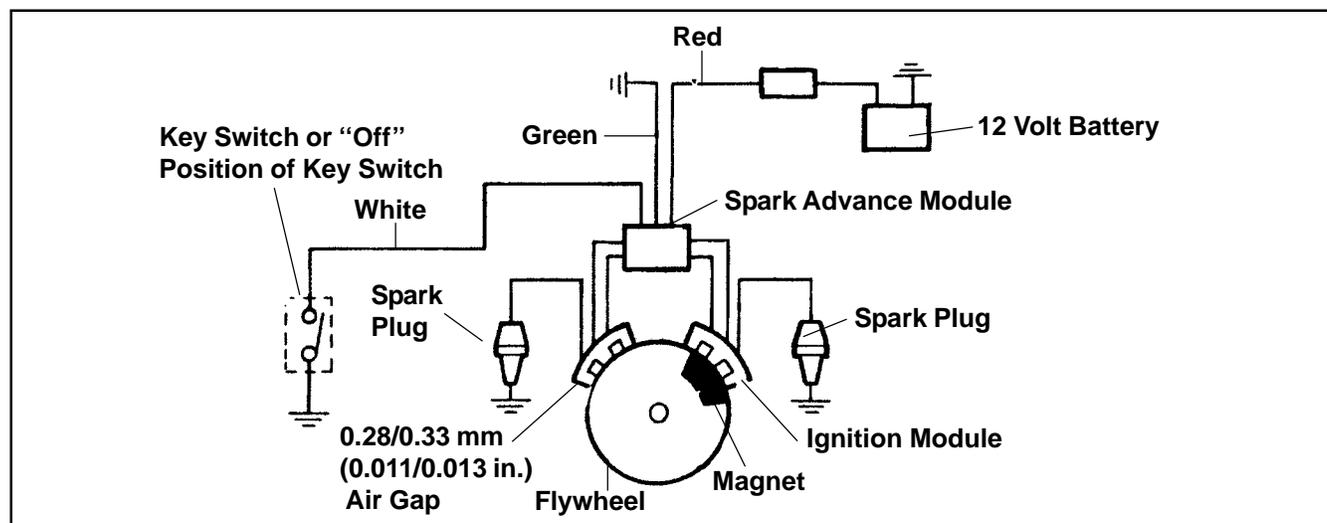

Figure 8-6. Capacitive Discharge Ignition System with Spark Advance.
SMART-SPARK[™] equipped engines utilize an electronic capacitive discharge ignition system with electronic spark advance. A typical application (Figure 8-6) consists of the following components:
- Two electronic capacitive discharge ignition modules which mount on the engine crankcase (Figure 8-6).